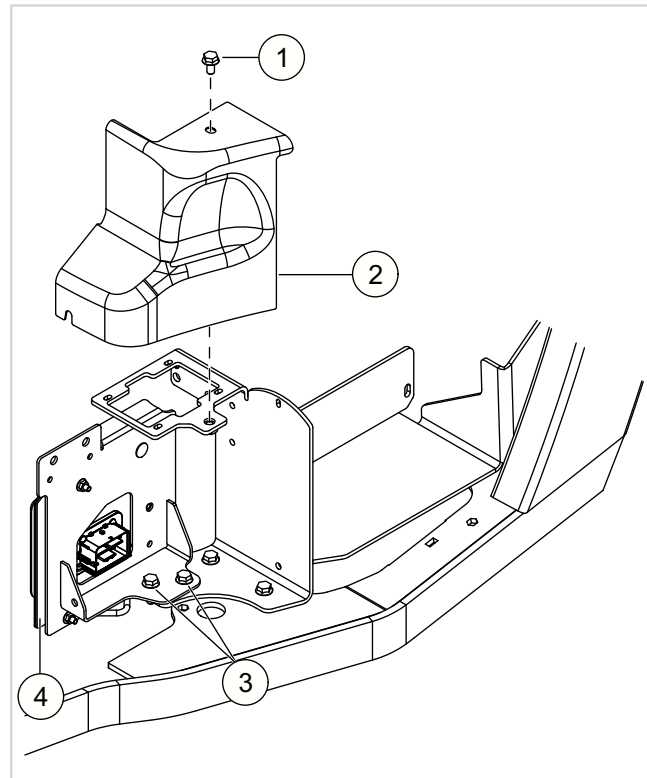

Fig. 2 (32371)
5. See Figure 2. Put the bracket on the battery bracket and secure it with the screws (3). Torque to 17–26 N m (13–19 ft lb).
6. Connect the connector PC310 to A3 (4).
8. Put the cover (2) on the bracket and secure it with the screw (1). Torque to 19–27 N m (14–20 ft lb).